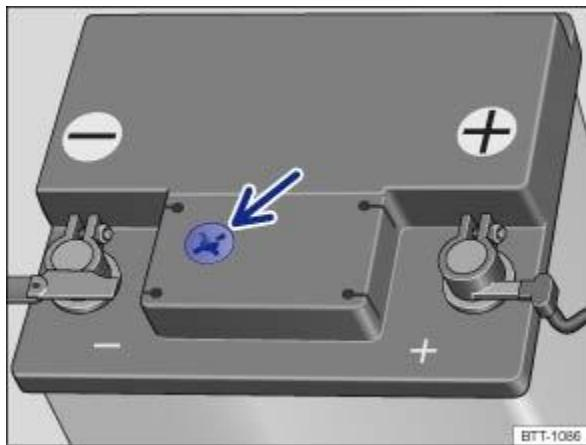

Fig. 192 Battery window on the top of the 12-volt vehicle battery (illustration).
- ② Ensure that enough light is available for you to clearly see the colour indicator in the round battery window on the top of the 12-volt vehicle battery ⇒ Fig. 192 (arrow). Never use naked flames or glowing objects as a light source.
- ② The colour displayed in the round battery window changes according to the electrolyte level in the 12-volt vehicle battery.